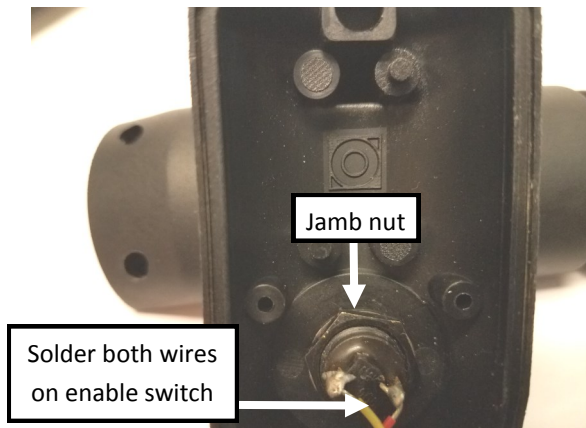

Figure 9
9. Install the enable switch into the front cover supplied in kit, tighten the jam nut until secure (see figure 9).
10. Following normal soldering procedures, attach both wires onto the enable switch (see figure 9).